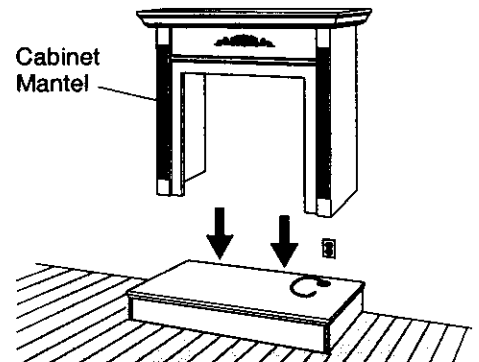

Figure 14 - Installing Cabinet Mantel
2. If using an optional GA3750 blower (CGFB32C model only), install a properly grounded, 120 volt three-prong electrical outlet at firebox location if an outlet is not there. If possible, locate outlet so cabinet mantel will cover it when installed (see Figure 14).
6. Center cabinet mantel on hearth base (see Figure 14). Make sure mantel is flush against wall.